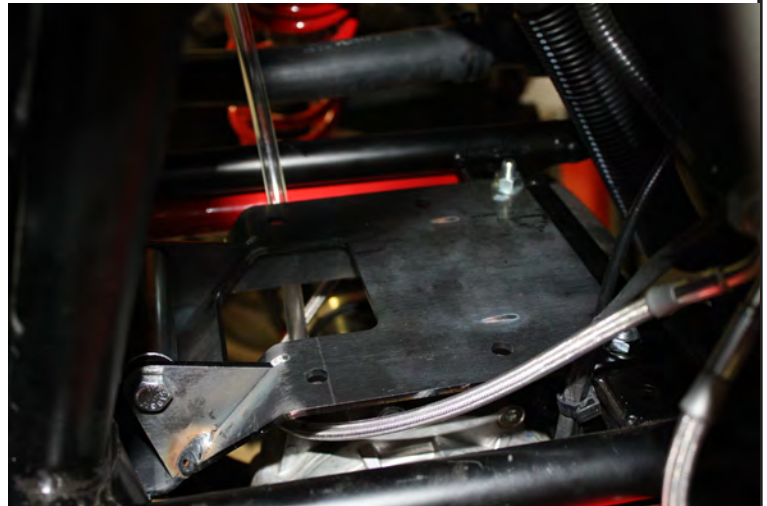

Figure 2
2. Install winch mounting bracket behind radiator as shown in fig 2. Install but do not tighten two M8 x 25mm bolts, flat washers and two nylock nuts to secure rear of bracket to vehicle frame. Refer to exploded view for details. It may be easier to install the bolts up through the frame and then through the bracket as shown in the exploded view. Do not in-install the two front bolts yet as you will do so in the next step.